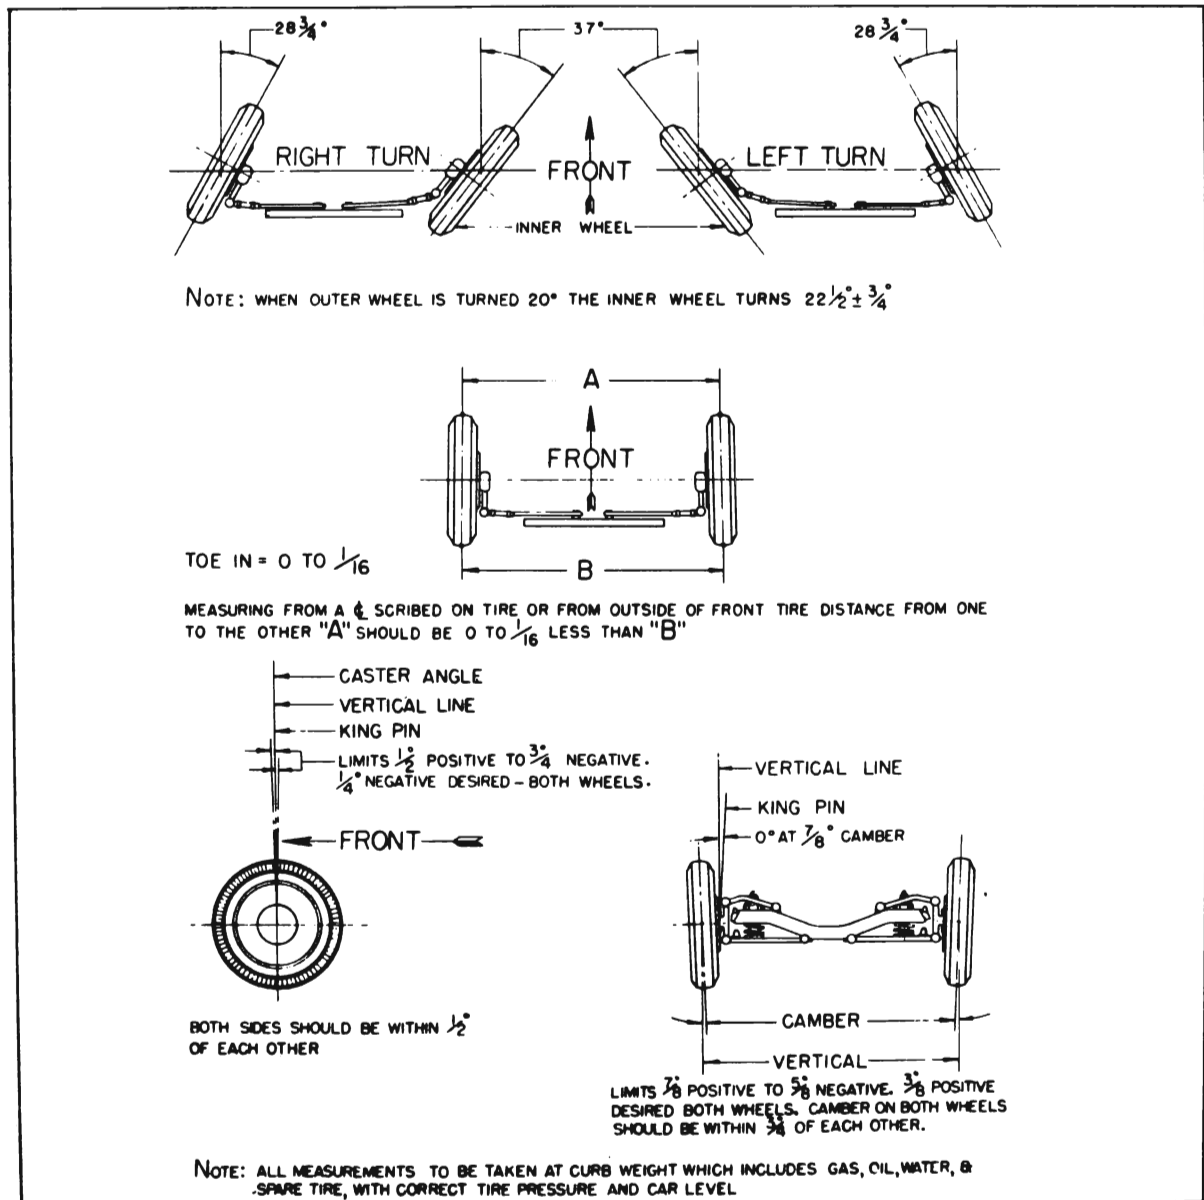

Figure 7-16—Front Wheel Alignment Specification Chart
Caster and camber should be within the limits shown in figure 7-16. Note that the caster angles at both front wheels need not be exactly the same but must be within $\frac{1}{2}$ degree of each other. Likewise, the camber angles on both sides must be within $\frac{3}{4}$ degrees of each other. If caster and camber are not within the specified limits, adjust as described below.
Caster and camber must be adjusted together to obtain the best average setting of each within the specified limits given in figure 7-16.
2. Insert $\frac{1}{4}$ " Allen wrench into hex socket in end of upper pivot pin, then turn pivot pin as required to bring the caster and camber settings within the limits specified in figure 7-16. One-quarter turn of pivot pin changes caster angle $\frac{1}{4}$ degree. One-half turn of pivot pin gives the maximum available range of camber adjustment.
With camber known to be within specified limits, king pin inclination should check within specified limits given in figure 7-16.
3. Using a suitable toe-in gauge, measure the distance between outside walls of tires at the front at approximately 10" from the floor. See figure 7-16 dimension "A." Mark points where gauge contacts tires. **NOTE:** *An accurate check also can be made by raising and rotating front wheels to scribe a fine line near the center of each tire, then, with tires on the*
4. Roll the car forward until measuring points on tires are approximately 10" from the floor at the rear, and measure the distance between points used in Step 3 above. The measurement at the front (dimension "A") should be 0" to $\frac{1}{16}$ " less than the measurement at the rear (dimension "B"). See figure 7-16.
1. With the front wheels resting on full floating turntables, turn wheels to the right until the outside (left) wheel is set at 20 degrees. The inside (right) wheel should then set at angle specified in figure 7-16.
2. Repeat this test by turning front wheels to the left until the outside (right) wheel sets at 20 degrees; the inside (left) wheel should then set at angle specified in figure 7-16.